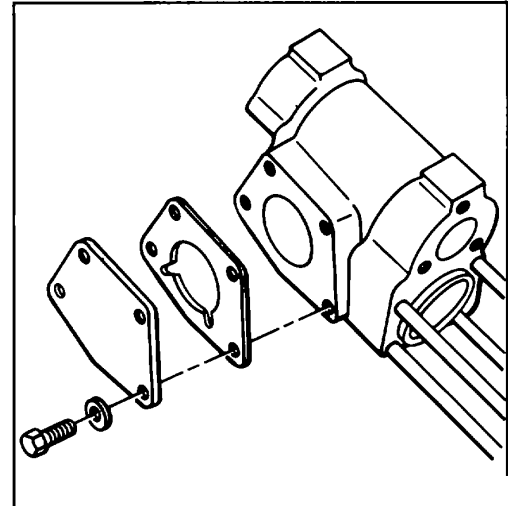

Figure 176.
5. Install housing cover (26) with four cap screws (24), lock washers (25), and a new gasket (27). If one cap screw (24) was prepared with tape in Step 4, be certain it is positioned at the end of the cam follower pivot through hole). See Fig. 176. Torque cap screws to 132 in. lbs.